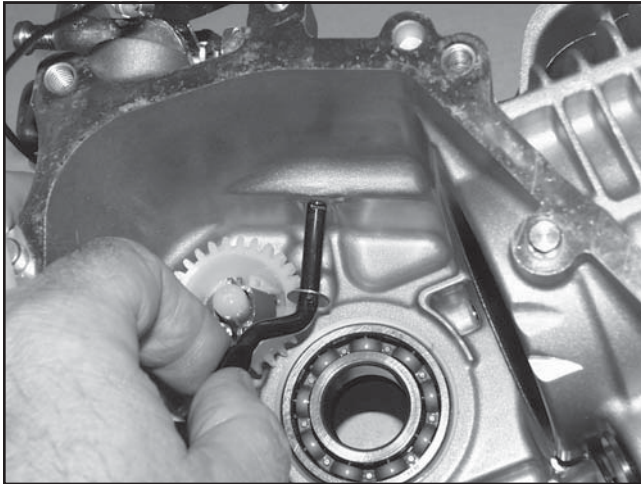

Figure 11-16. Installing Governor Shaft.
7. Install one thrust washer onto the governor cross shaft and slide the shaft up through the inside of the crankcase. See Figure 11-16.